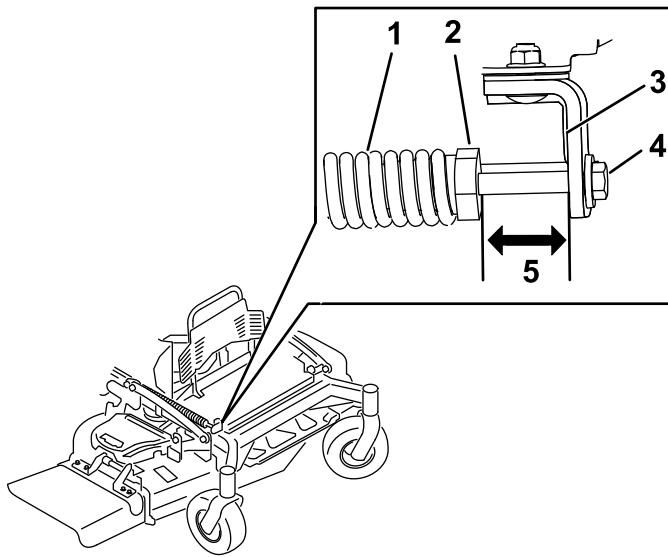

Figure 86
2. Check the distance between the spring nut and the rear side of the welded mount bracket (Figure 86).
3. Ensure that the length is 51mm (2 inches) for 48/52in decks, and 38mm (1.5 inches) for 60in decks as shown in Figure 86.
4. If needed, adjust the distance by adjusting the bolt on the front of the mount bracket (Figure 86).